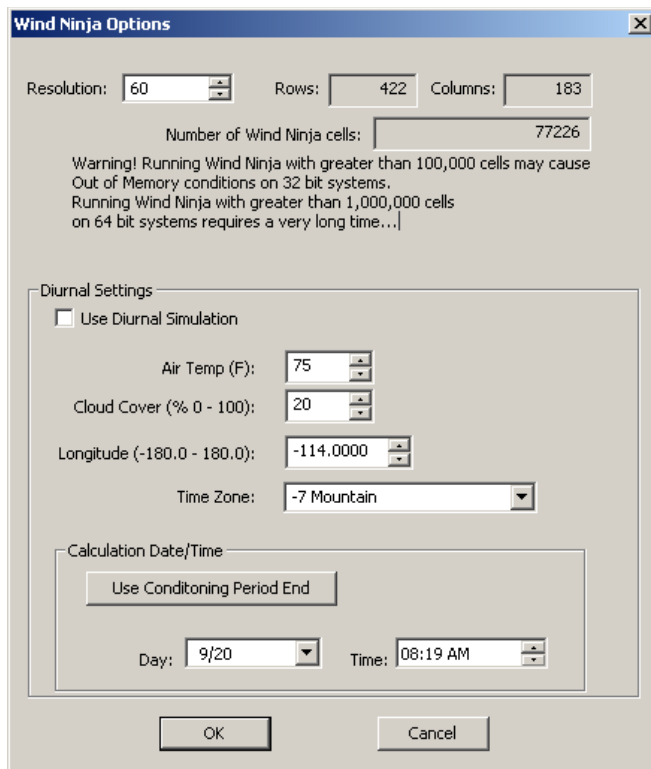

Figure 4-27—Wind Ninja Options window.
- f) Select the *Generate Wind Vectors* option, then click **Wind Ninja Options** (fig. 4-27).